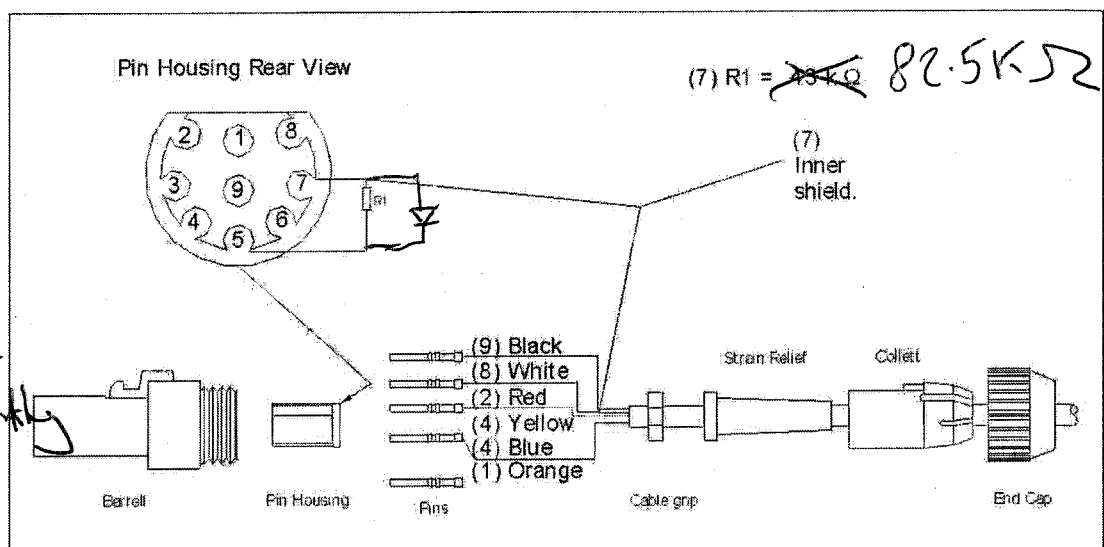

Fig 2.2
9. Cover the resistor in Ø1.6mm heat shrink and solder each leg into the rear of 2 separate pins and push pins firmly into correct locations as shown in fig 2.2.
10. Solder the shield to pin 7, covering it with Ø1.6mm heat shrink, and the remaining wires to the rear of 4 separate pins and push/pull firmly into correct locations shown in fig 2.2.